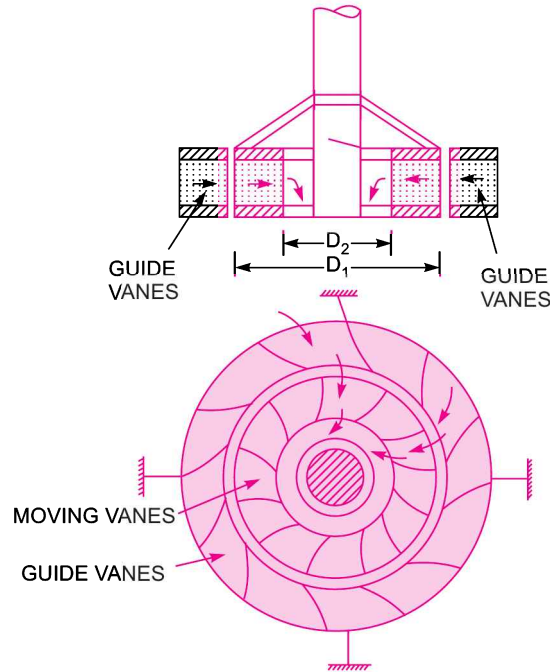

Fig. 18.11 *Inward radial flow turbine.*
18.7.2 Inward Radial Flow Turbine. Fig. 18.11 shows inward radial flow turbine, in which case the water from the casing enters the stationary guiding wheel. The guiding wheel consists of guide vanes which direct the water to enter the runner which consists of moving vanes. The water flows over the moving vanes in the inward radial direction and is discharged at the inner diameter of the runner. The outer diameter of the runner is the inlet and the inner diameter is the outlet.